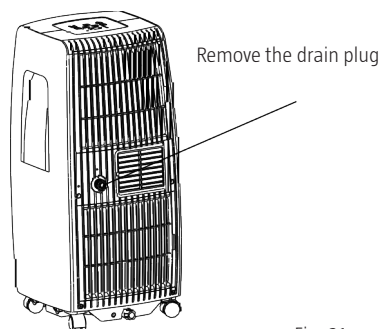

Fig. 21
- In dehumidification mode, remove the drain plug on the back of the appliance and connect the drain hose (sold separately). Use 3/4" hose with 5/8" coupling with external thread. For models without drain connection, connect the drain hose to the hole. Lead the hose to a suitable drain (fig. 21 and 22).